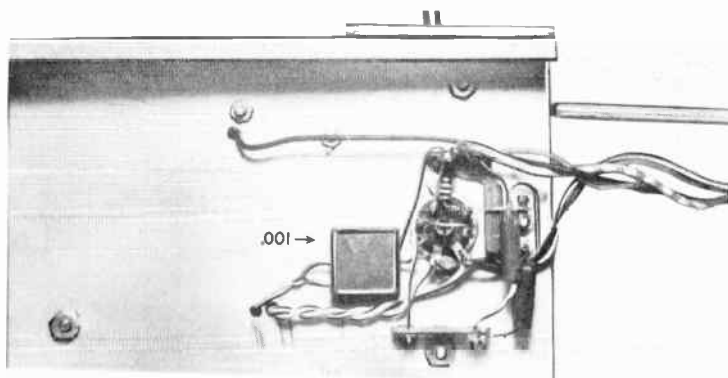

Fig. 705. Two twisted 6-inch lengths of insulated wire are run up through the chassis holes beneath the final amplifier tube socket (V2).
11. Twist these leads as shown in Fig. 705 and run them up through the holes just below the new tube socket (we will henceforth refer to this new socket as the *final* amplifier tube socket or V2.) Make sure the insulation is not scraped from the wires where they pass through the chassis. These wires will supply filament voltage to the amplifier tube.